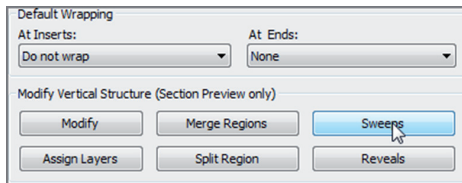

FIGURE BC1.9: Adding a sweep to the wall
19. Click the Sweeps button, as shown in Figure BC1.9.